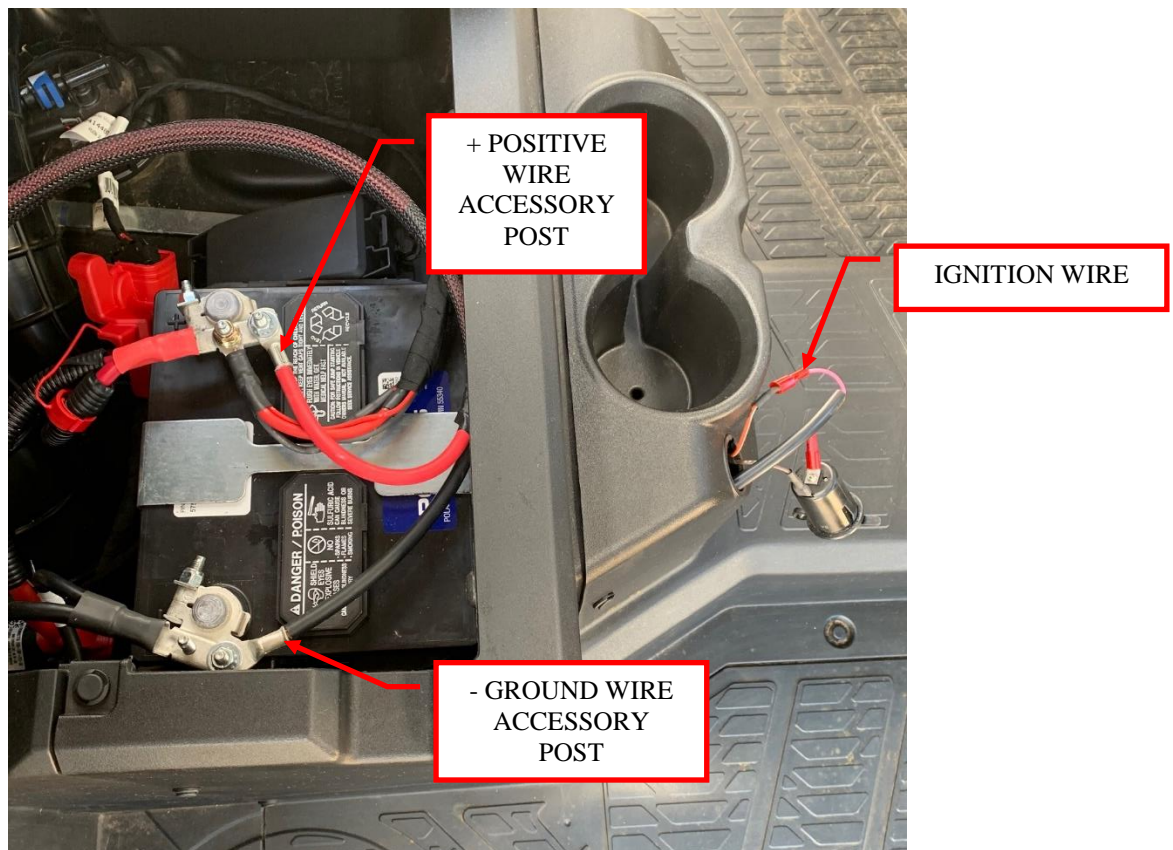

Figure 11: Attach the power wires.
11. Connect the red power wire to the positive terminal of the battery. Connect the black ground wire to the negative terminal of the battery. Use the supplied M6 nut to clamp the cable down to the accessory posts on the battery terminal. See Figure 11.
12. Locate the cigar light style power point just in front of the battery near the cup holders. Pry the power point out to access the wiring on the back. Remove the 12V ignition wire from the power point (orange wire with white stripe). Connect one end of the pink ignition wire on the Audio Shade chassis harness to the ignition wire from the power point. Connect the other end of the Audio Shad chassis harness to the power point. Push the power point back into the housing. See Figure 11.